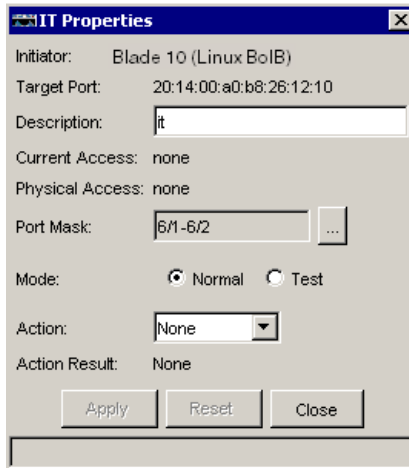
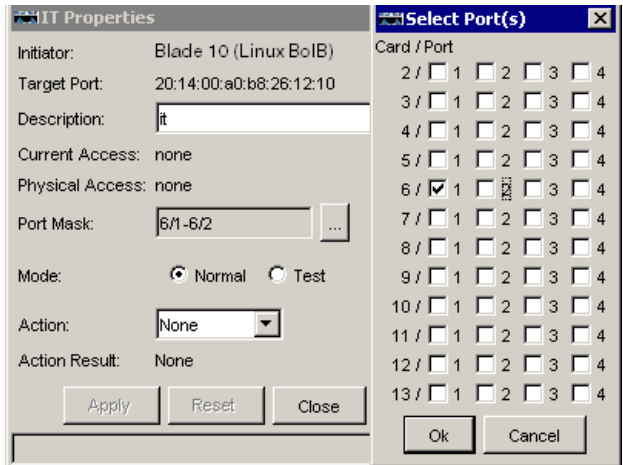

Figure 6-15 Configure port masking for the SRP host
Figure 6-16 Configure port masking for the SRP host: Select Ports menu
3. Double-click any of the target controller WWPN ports through which the BoIB image will be installed. The ITL Properties window opens as shown in Figure 6-15. Notice that the default value is to permit access through ports 6/1 and 6/2.
- Click the  button shown in Figure 6-15 to open the Select Ports menu that gives the option to allow or to deny access to the SRP host through one or more ports. Add check marks to only one of the two ports as shown in Figure 6-16 and click **OK** to save the changes.